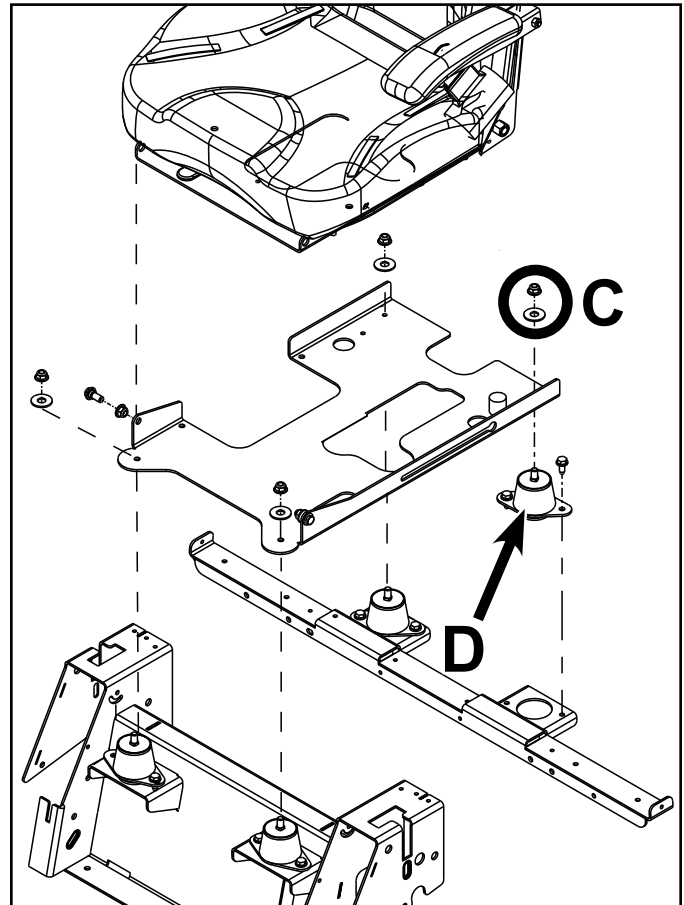

Fig. 019
Seat Style 2 – Remove the (4) bolts and washers (C) that attach the seat base to the rubber mounts (D) (Fig. 019).